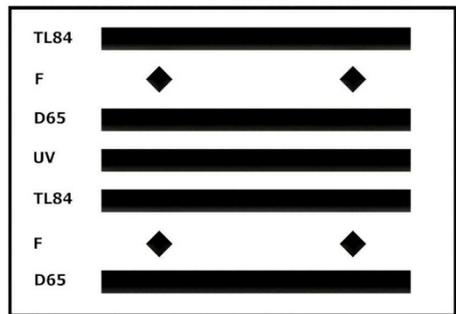

Figure 2
8. Per Figure 2, installing a new lamp. Follow the instructions noted on the bottom of the lamp and calculate time from zero as follows: